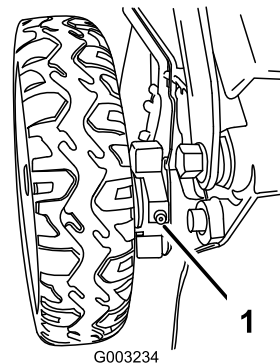

Figure 38
1. Wipe the grease fittings just inside the rear wheels with a clean rag (Figure 38).